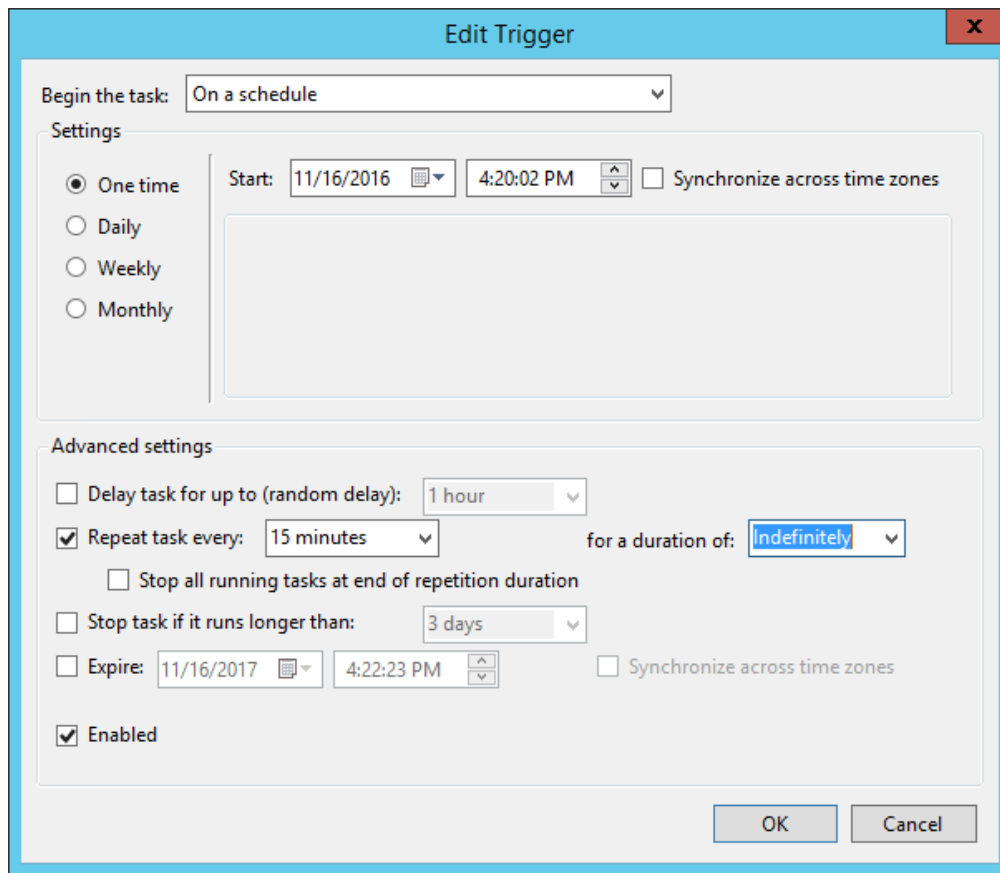

Figure 5: Task trigger setup
- b. On the **General** tab, give the task a suitable name. Run the task as the **SYSTEM** user. The task should be configured to run whether the user is logged in or not. On the **Triggers** tab, create a trigger to begin the task “On a schedule” to start at the current time. Then under **Advanced settings**, repeat it every 15 minutes indefinitely. See Figure 5.